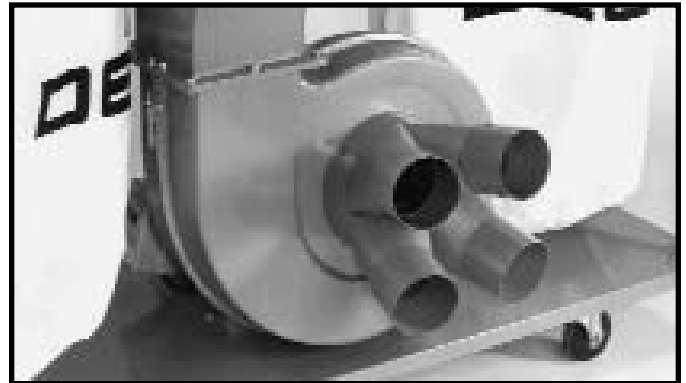

Fig. 30
2. Fig. 30, illustrates the dust intake ports assembled to the blower assembly.